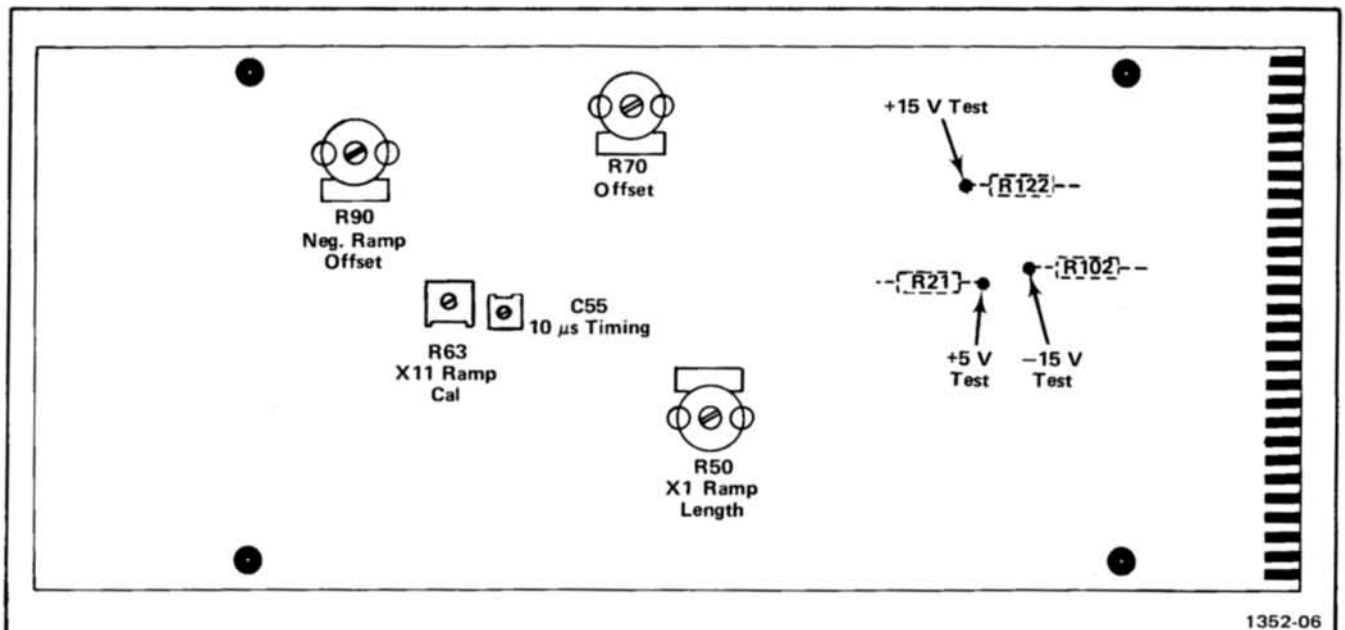

Fig. 3-1. Adjustment and Test Point locations.
- Connect the dc voltmeter leads to ground and the +5-volt test point. Refer to Fig. 3-1 for test point locations.